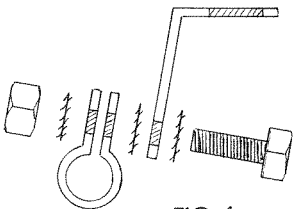

FIG. 6
STEP 6—ATTACHING THE MOUNT—Locate an accessible area and select the appropriate mount. If you have chosen the round rail mount, vertical rail is recommended over horizontal rail. Part number 10-047- $\frac{7}{8}$ " rail adapter may be required if mount feels loose on rail. Next, loosely attach L-bracket assembly to knurled end of mount so L-bracket is easily movable. (see figure 6) Follow any instructions that may have come with the mount and secure mount in place. Next, hold L-bracket in horizontal position and tighten nut with $\frac{9}{16}$ " wrench or socket. (about 20 ft. lbs. torque) **NOTE:** Pliers, vise grips or adjustable wrenches are not adequate for this operation. Thread bowl on L-bracket and check to see that it is level. This is important for proper heat distribution. After final level adjustment wait 2 hours for metal to set and retorque as before. **CAUTION:** Do not use L-bracket assembly to attach and detach barbeque each time you use it. See step 7 for this procedure.